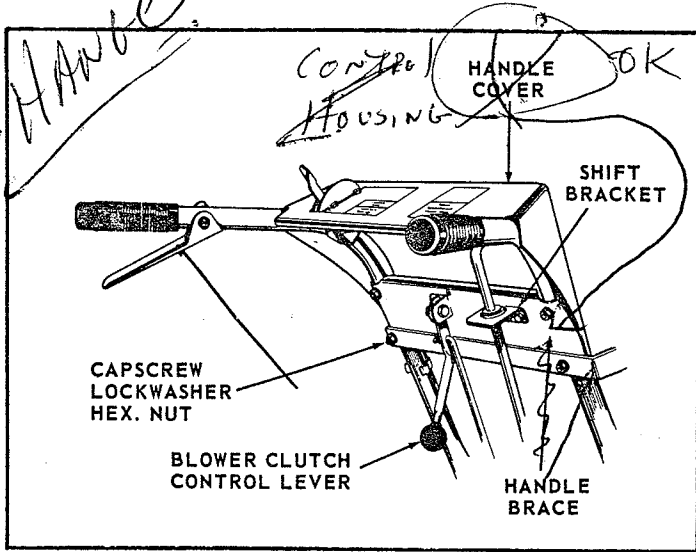

FIGURE 3
4. Assemble the Shift Rod Assembly to the handle cover using (two) 1/4" x 1/2" capscrews and 1/4" lockwashers. Secure with 1/4" nuts. Mount the handle cover to handles. Then attach the spout adjusting rod support to bottom holes and secure with 1/4" lockwashers and 1/4" nuts. See Fig. 3.